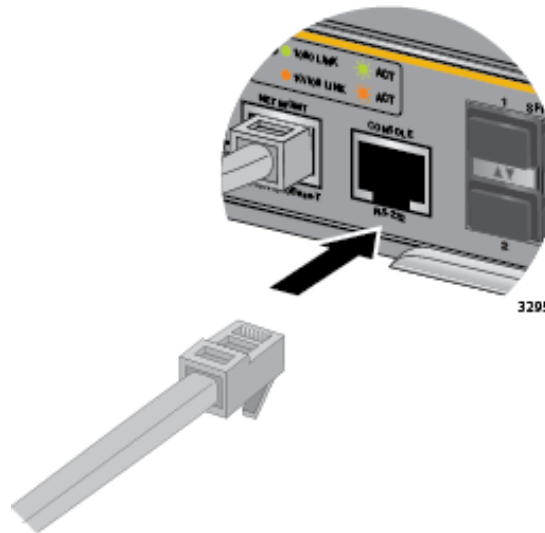

Figure 162. Connecting the Management Cable to the Console RS-232 Port
1. Connect the RJ-45 end of the management card included with the AT-SBx81CFC960 Controller Fabric Card to the Console RS-232 port on the front panel of the AT-SBx81CFC960 Controller Card, as shown in Figure 162. If the chassis has two controller cards, you may use the Console RS-232 port on either card to establish a local management session with the chassis.